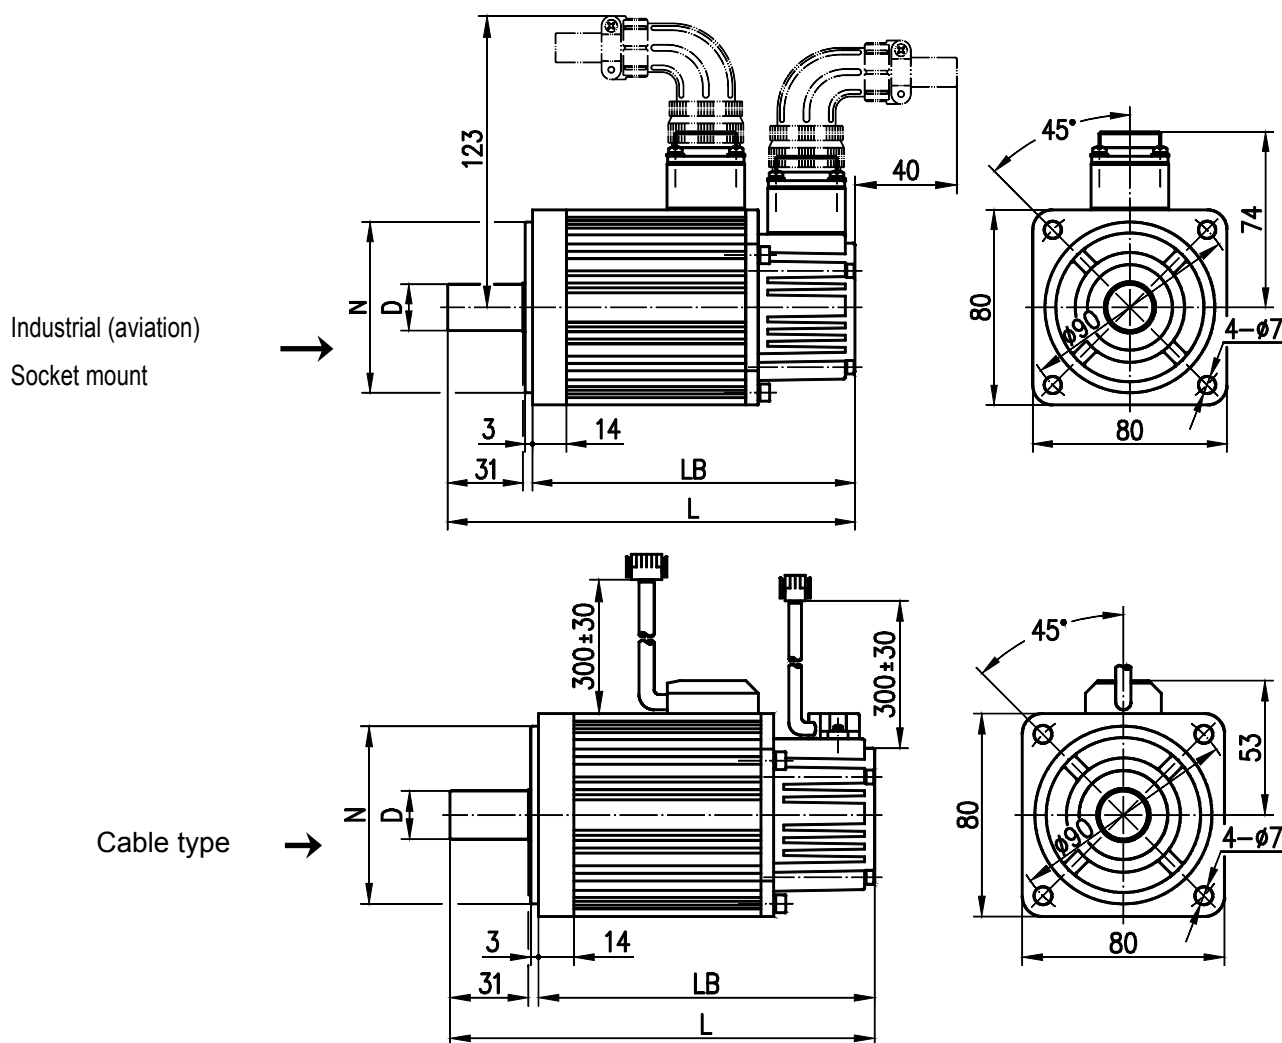

Fig. 2-1
- For external dimensions and installation of 80SJT series motor, see figure 2-1, table 2-1.